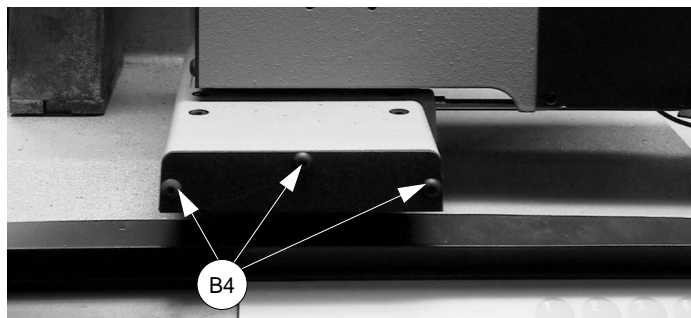

Fig. 49
- 5) remove the front cover on the (X axis) lower carriage (fig. 49) by unscrewing the 3 (B4) screws.